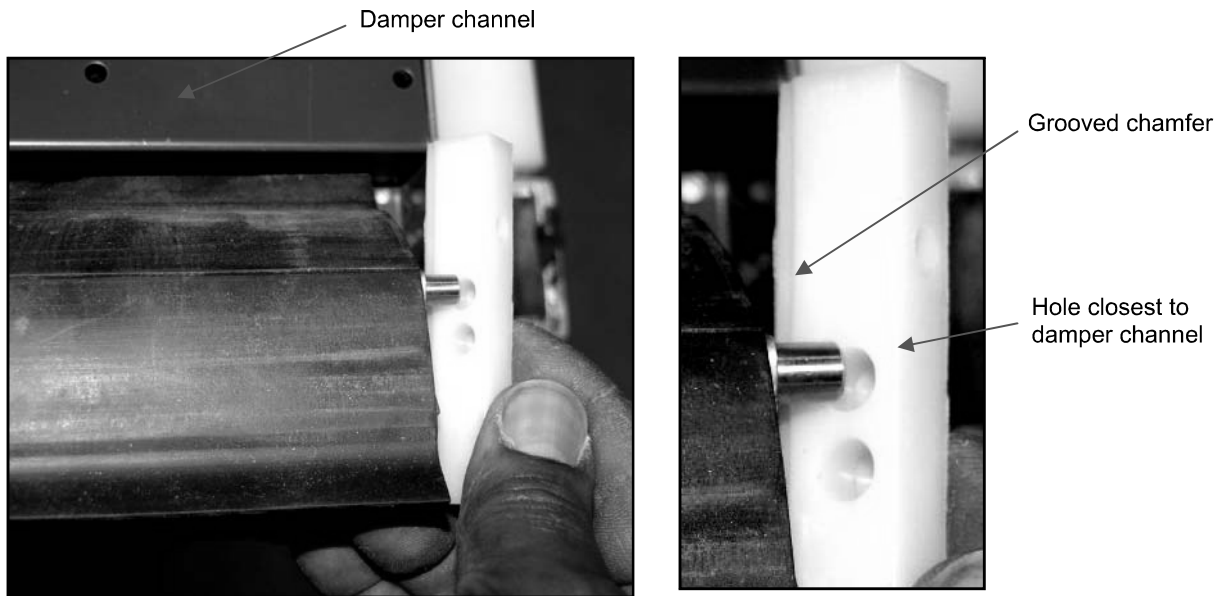

Fig. 6.1.4 – Inserting stagnation-control damper into hinge blocks
5. Install white plastic hinge blocks on shaft ends (Fig. 6.1.4). Note that grooved chamfer is down and shaft must be inserted into hole closest to damper channel (Fig. 6.1.4).